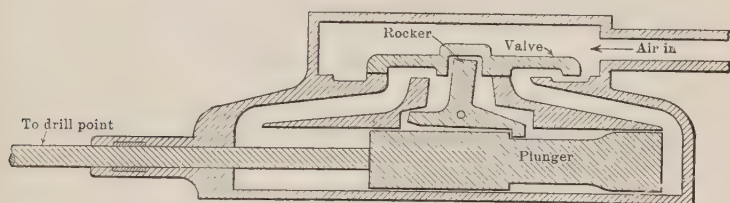

FIGURE 128.—SECTION OF HEAD OF COMPRESSED-AIR DRILL.
*Pneumatic tools* serve many purposes and their use is increasing. Among them are cutting and chipping tools for rock and metal; coal, rock, and metal drills; and pneumatic riveters (Figure 126). In the drill (Figure 127), compressed air admitted to the cylinder drives the plunger forward so that its motion is passed on to the drill tool itself (Figure 128). A single automatic valve mechanism admits air alternately to the plunger and permits the expanded air to escape.